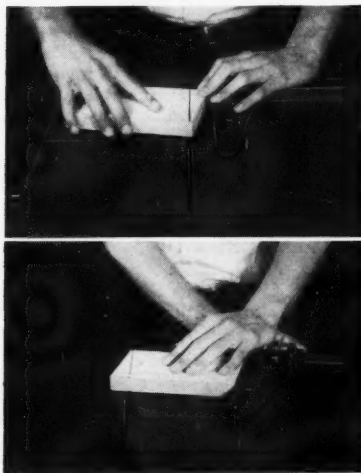

Figure 7
3. Place the wood on the saw, set the gauge to proper width, make allowance if using the practical method (Figure 7, top). If the block is being cut on a Miller Saw Trimmer, it is safe practice to cut the first angle with the set-gauge shifted (Figure 7, bottom). This method will permit a greater portion of the block to be retained by the operator of the saw. Make the first cut; keep the block steady. Measure the results of your initial cut. If the measurements are off, make necessary adjustments and recut the block. The first block is usually referred to as the master block; when this is cut, the others are cut with the aid of the master block. In composing rooms that have a Morrison Saw